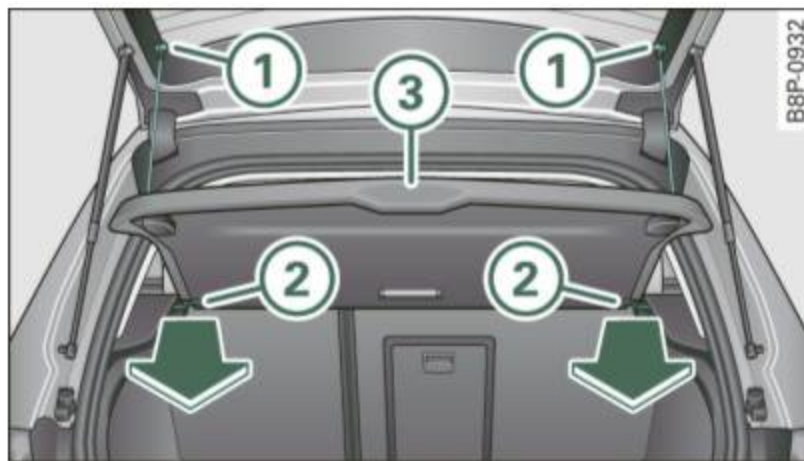

Fig. 108 Rear lid open with luggage compartment cover
- Detach the retaining straps ⇒ fig. 108 at the rear hatch .
- Push the cover horizontally into the mounts provided ⇒ fig. 108  on the side panel until the cover seats.
- Install the retaining straps in the rear hatch ⇒ fig. 108  ⇒ .